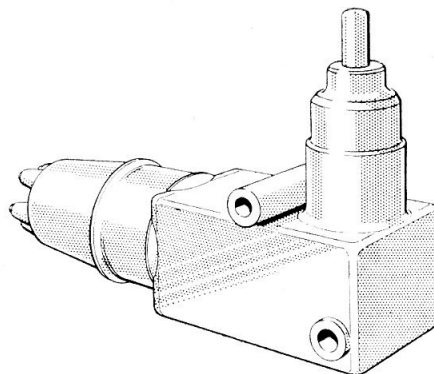

Fig. 1. Microswitch, Type 1241Z, Mk. 1A
2. A general view of this switch is shown in fig. 1. The microswitch is designed to operate on 28V. d.c. supply, and the contacts will switch a resistive load of 5 amperes, or an inductive load of 3 amperes, 0.06 henries.